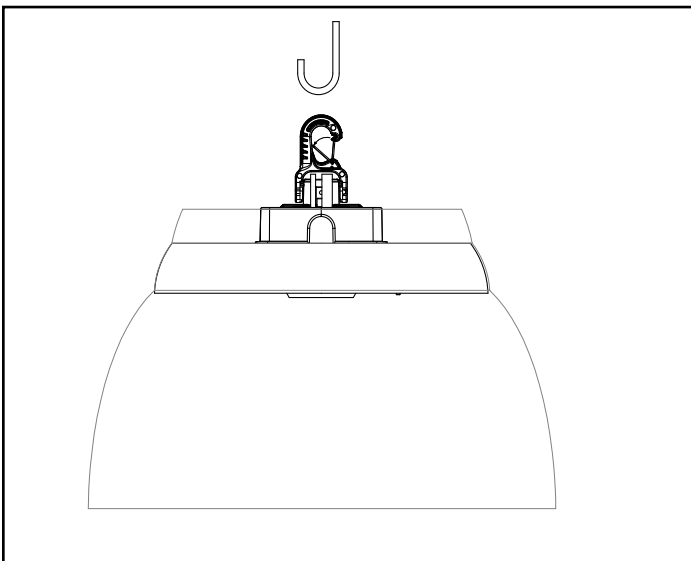

Figure 3.
4. Hang fixture to structure (by others). (Fig. 3)